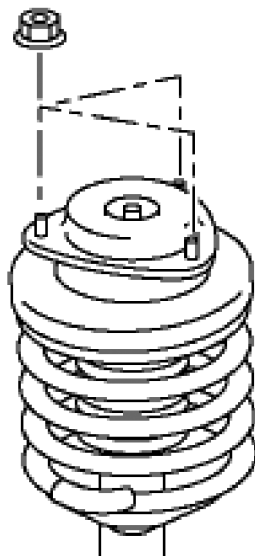

fig. 6
4. Unthread the three upper bracket nuts within the engine compartment and remove the strut from the vehicle (fig. 6).